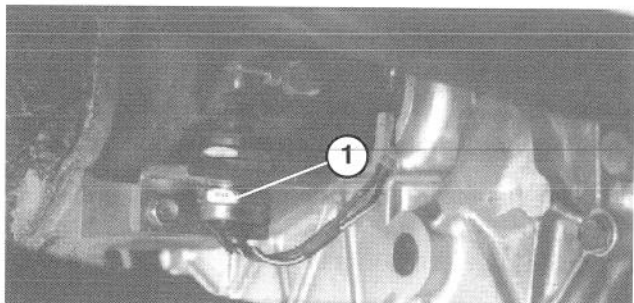

Figure 57
7. Recheck clutch safety switch adjustment (Fig. 57). Engine must not crank unless clutch pedal is $1.25" \pm .12"$ from floor. If an adjustment is required, loosen switch jam nuts and adjust up or down.